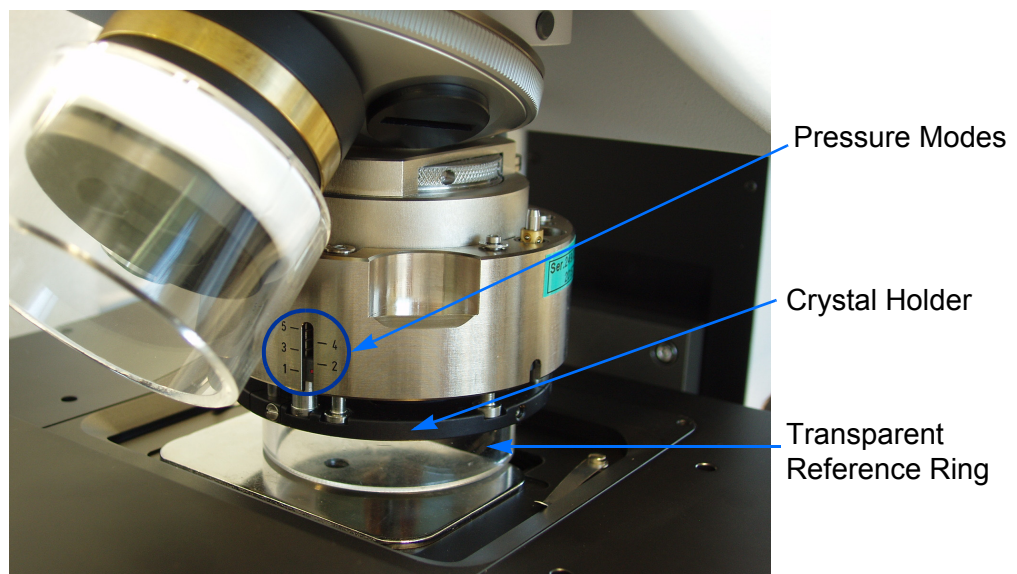

Figure 47: ATR Objective
- Pull down the crystal holder of the ATR objective into the first pressure mode. See figure 47.